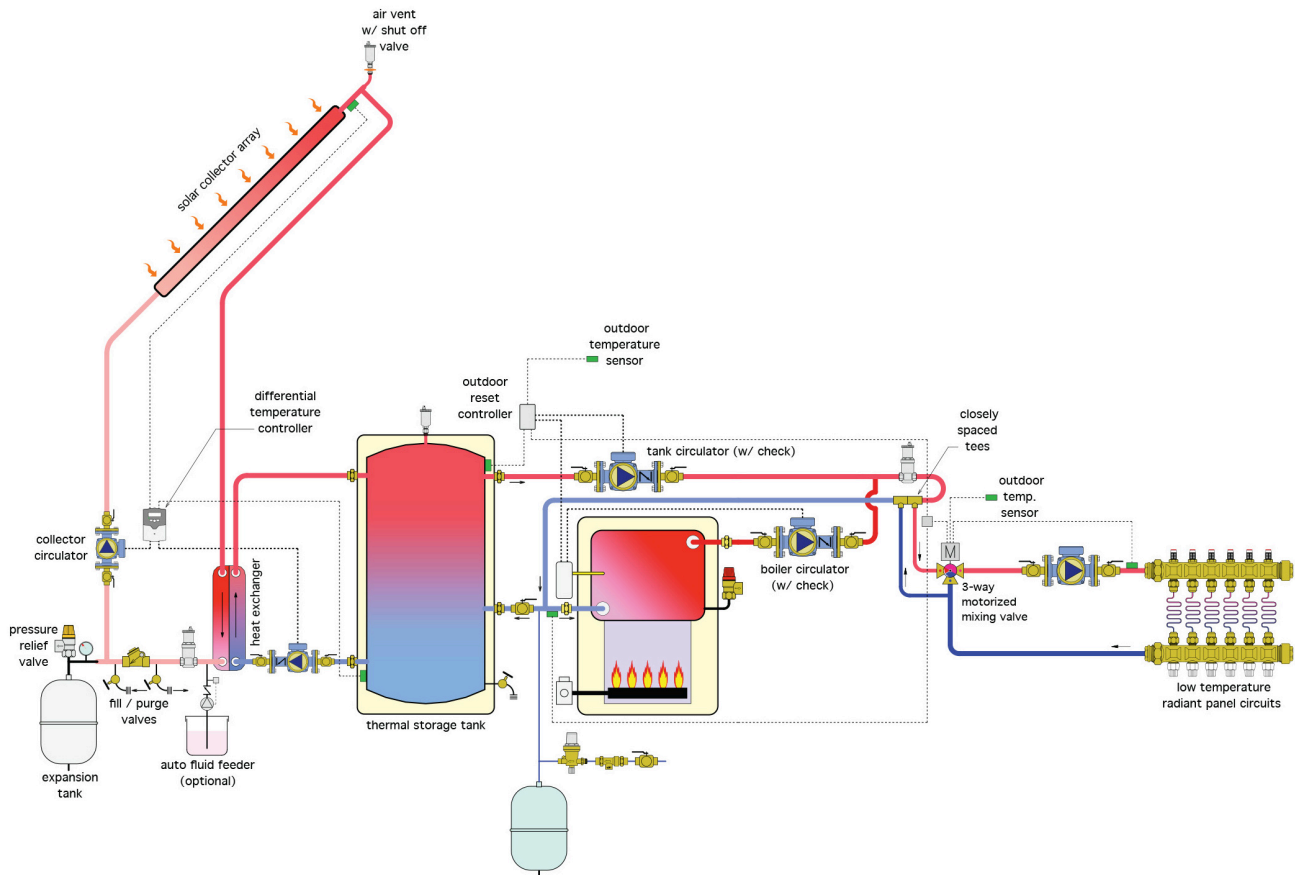

Figure 1 Solar supplementing a radiant floor system
- Figure 1 A basic closed active solar thermal system © Caleffi Hydronic Solutions. Used with permission.
Hydronic-based solar subsystems can supply heat to either forced air or hydronic space heating systems. Ideally, radiant floor systems are the most logical recipients of solar energy. They typically operate using water temperatures of 100 – 130°F (38 – 54°C). If tube spacing, under-slab insulation and floor covering considerations are carefully planned, those water temperatures can be further lowered, thereby increasing the effectiveness of a solar energy supply. Figure 1 below illustrates an antifreeze-based solar subsystems supplying a radiant panel distribution system that is supplied by a gas-fired boiler.